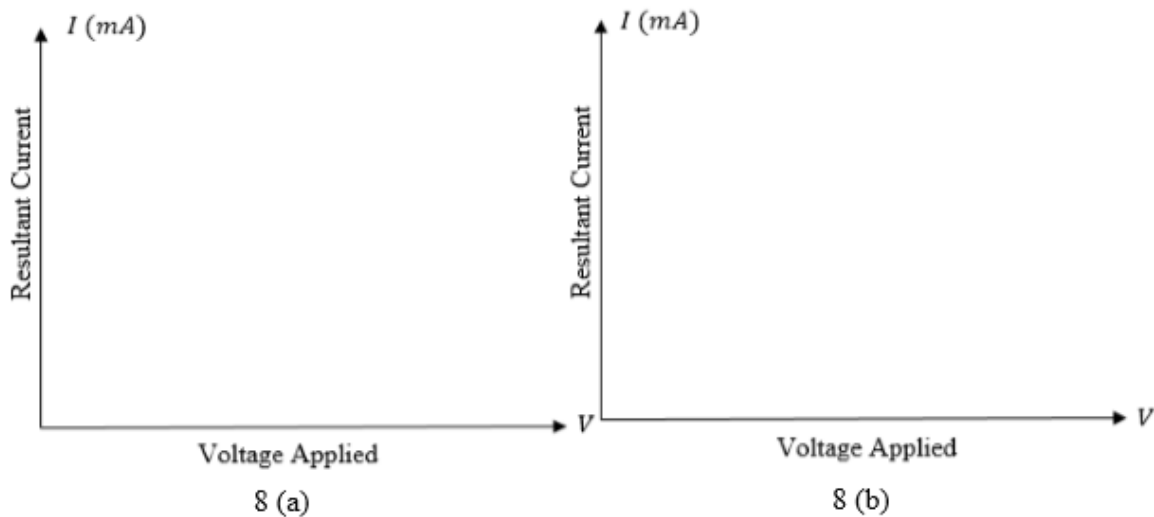

Figure 8: Plotting of V against I
- 3- Plot a graph of V against I as shown in Fig. 8(a) and 8(b) for $R=2.2K$ ohms and $R=220$ ohms respectively.